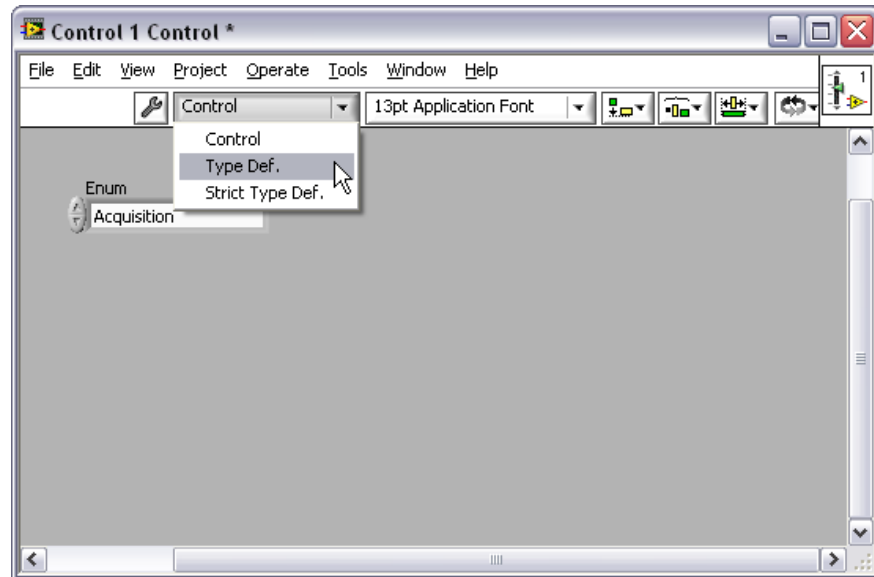

Figure 4-27. Control Editor Window
- Select **Type Def.** from the **Type Definition Status** pull down menu, as shown in Figure 4-27.